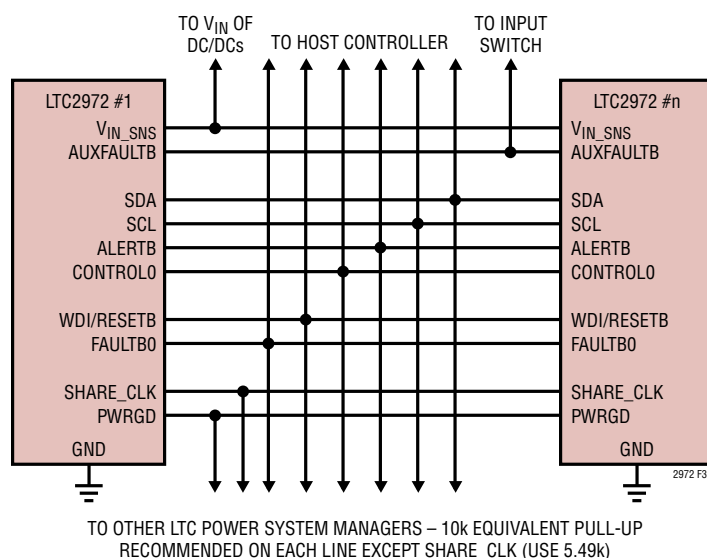

Figure 32. Typical Connections Between Multiple ADI Power System Managers
Figure 32 shows how to interconnect the pins in a typical multi-LTC2972 array.
- The $FAULTB$ lines can be connected together to create fault dependencies. Figure 32 shows a configuration where a fault on any $FAULTB$ will pull all others low. This is useful for arrays where it is desired to abort a startup sequence in the event any channel does not come up (see Figure 33).
- $PWRGD$ reflects the status of the outputs that are mapped to it by the MFR_PWRGD_EN command. Figure 32 shows all the $PWRGD$ pins connected together, but any combination may be used.